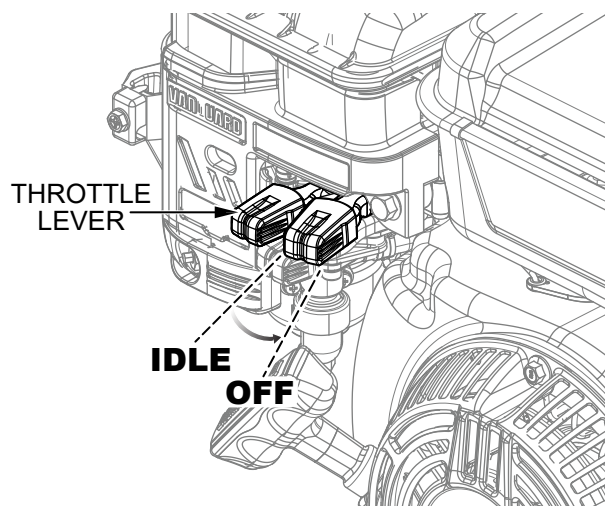

Figure 14. Engine Throttle Lever (OFF)
2. After the engine has cooled, place the engine throttle lever in the **OFF** position (Figure 14). This action will also turn off the engine fuel valve.